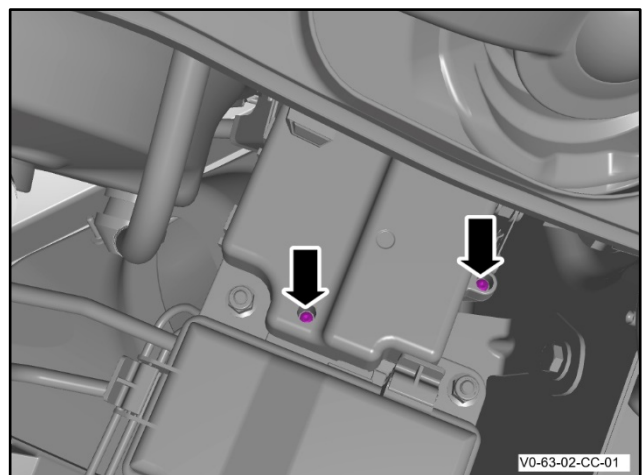

Figure 12
3. Install the two screws that attach the cover to the fuse box (refer Figure 12).